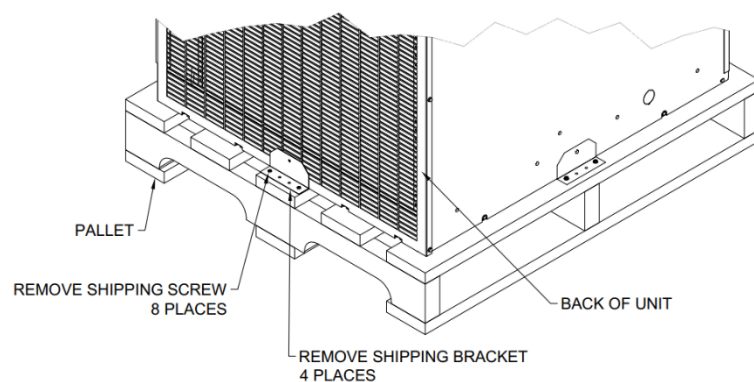
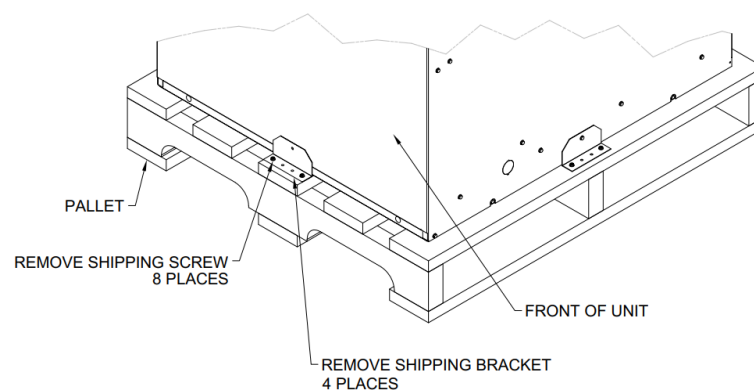

FIGURE 4 - Standard Packaging with Shipping Brackets - Back View
FIGURE 5 – Standard Packaging with Shipping Brackets – Front View
- 4) Ensure that the shipping brackets and screws are removed from the chassis section. Refer to **FIGURE 4 - Standard Packaging with Shipping Brackets - Back View** & **FIGURE 5 – Standard Packaging with Shipping Brackets – Front View** for more information.